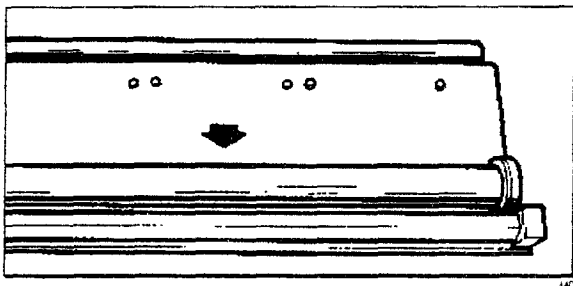

Fig.55
4. Clean and grease once a month the sliding bar of the toolholder arm (Fig.55).